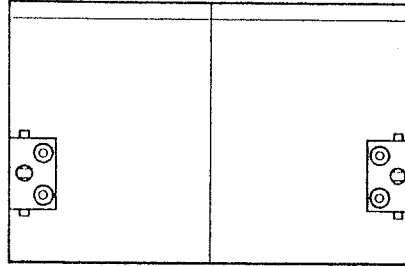

Fig. 1
<p>1) The following adjustments must be completed first in order for this adjustment to be performed.</p> <p>① The X and Y movement limit sensors must act before the mechanical stoppers.</p> <p>The X-Y origin adjustment mode () should be set to X=0 and Y=0.</p> <p>2) The following gauge is necessary for this adjustment. (Fig. 1) * Holder origin gauge</p> <p>3) Confirm that the gauge is attached and is in parallel. (Fig. 2) Connect the PGM-6, perform a jump, and check whether the engraved marker line on the gauge is parallel to the needle tip. When the gauge is not parallel, adjust it by loosening screw ① in the figure on the left.</p> <p>4) Keeping the PGM-6 with connected, the holder plate returns to the origin.</p> <p>5) As shown in the figure on the left, loosen the motor couplings of the X axis and the Y axis. (Fig. 3)</p> <p>6) Align the crossing point on the origin gauge with the needle entry point of the machine head, and tighten the couplings on the X axis side and the Y axis side. (Tightening torque of the coupling set screw is 4.12 Nm.)</p>	<p>The holder plate slit and the sewing pattern will become displaced from each other, causing needle breakage.</p> <p>X-Y movement limit error will be caused.</p>